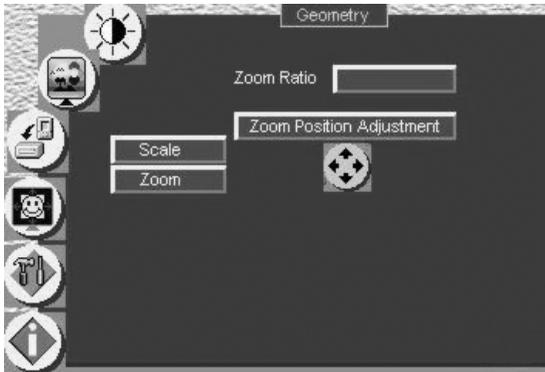

Figure 30: Geometry (Zoom Position Adjustment) Screen
- Using the OSD Menu buttons (see Figure 30)3